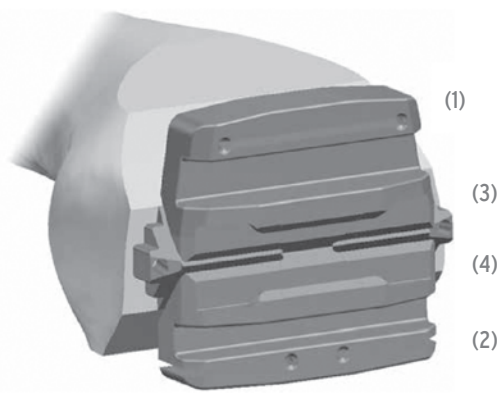

FIGURE 11
The resection is then performed in this recommended order: anterior cut (1), then the posterior cut (2) followed by the posterior chamfer (3) and ending with the anterior chamfer (4). | FIGURE 11